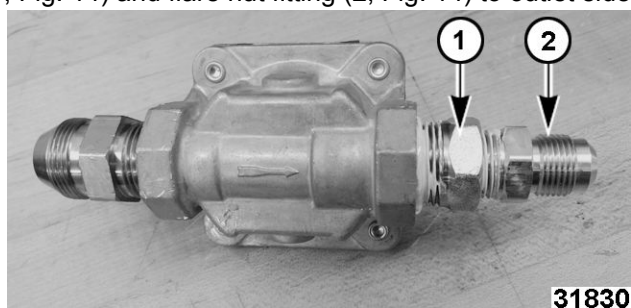

Fig. 14
12. Install bushing reducer (1, Fig. 14) and flare nut fitting (2, Fig. 14) to outlet side of regulator.